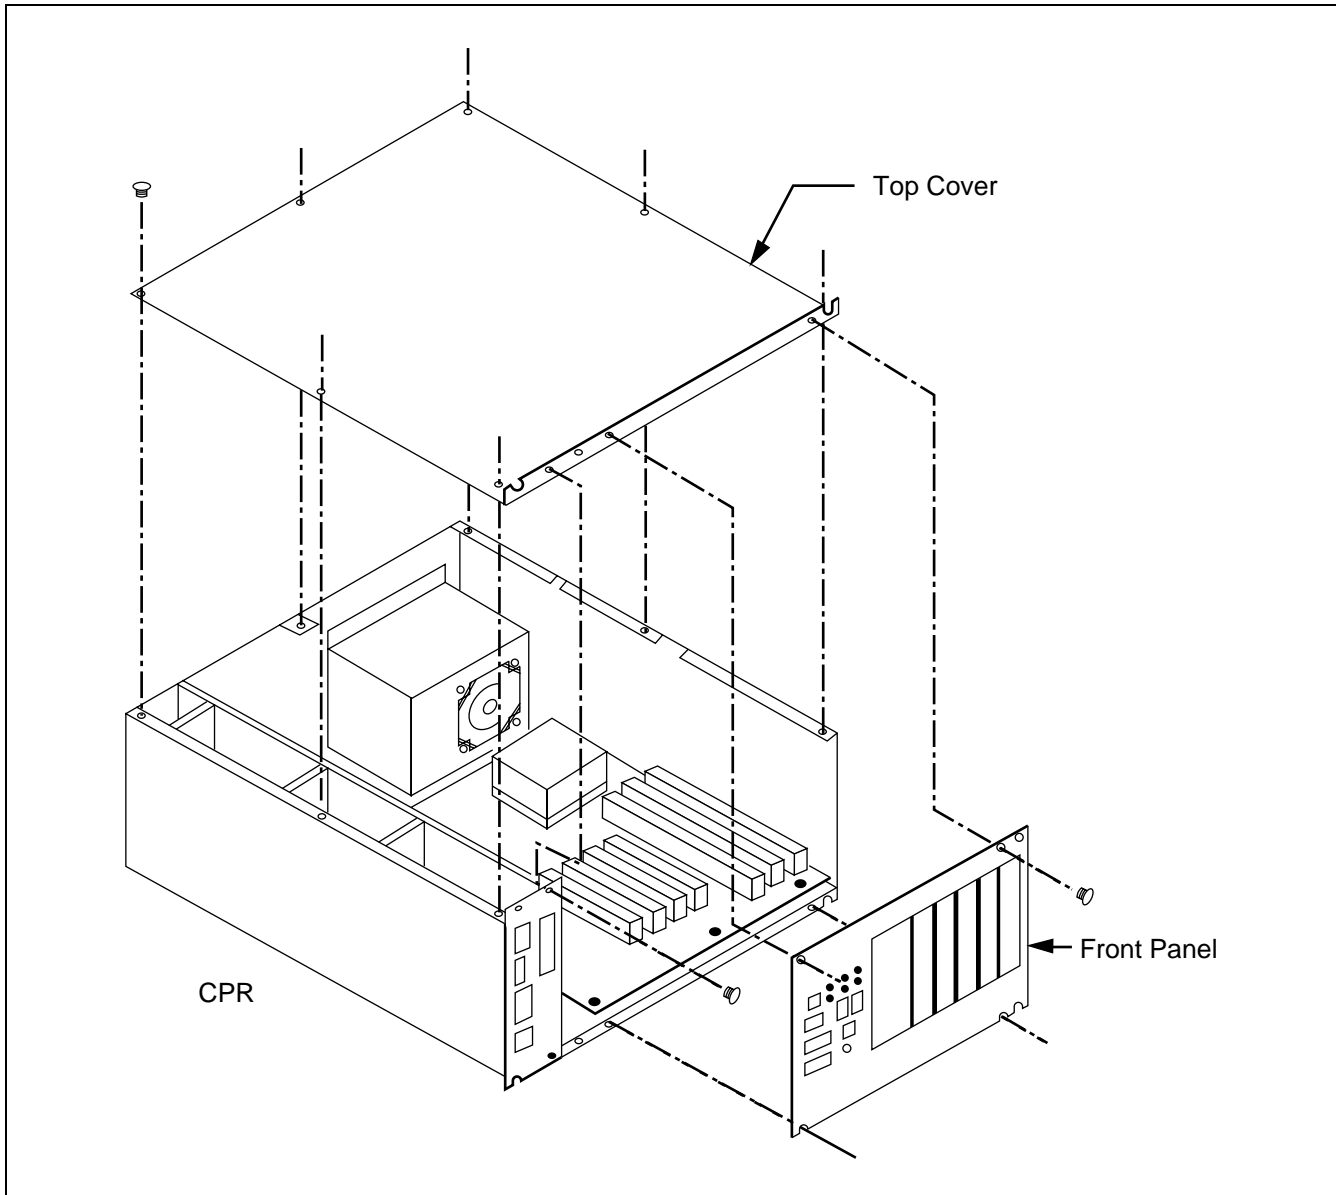

Figure 4-4 Removal of Front Panel and Top Cover From CPR
- (1) Detach the front panel of the new CPR by using the Phillips screwdriver to remove the four screws, as shown in Figure 4-4. Then, lift the top cover by removing the eight screws.